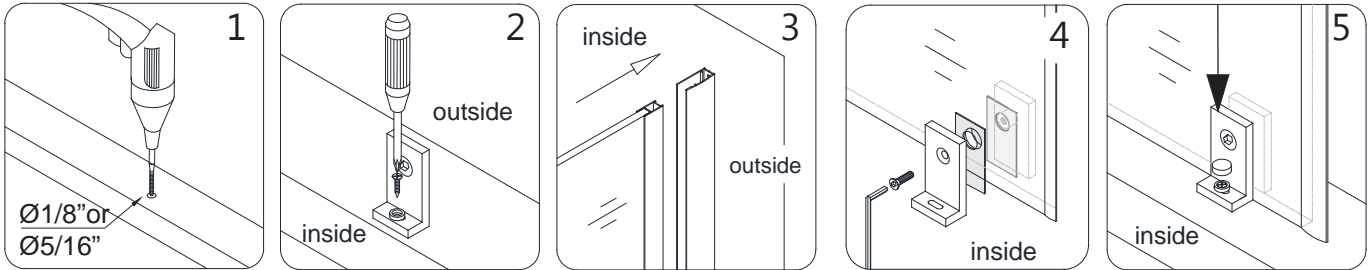

**Fig 6**
**6.** Remove the **Wall Profile (#09)** from the **Glass Profile (#10)/Panel Glass (#11)** assembly. Place the **Wall Profile (#09)** back onto the outlined position on the wall and mark the holes for drilling through the predrilled holes in the **Wall Profile (#09)**. Drill the holes in the wall using a **Ø5/16"** drill bit and insert the **Wall Anchors (#13)**. Apply silicone along the back of the **Wall Profile (#09)** and around the holes on the wall. Fasten the **Wall Profile (#09)** to the wall with the **Truss Head Screw ST4.2×40 (#15)**. (**Fig 6**)